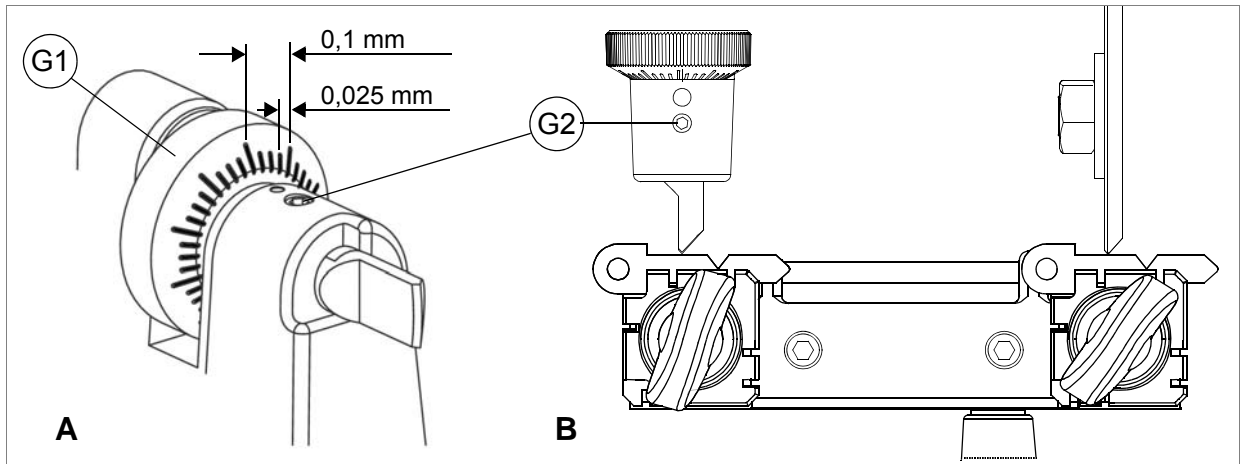
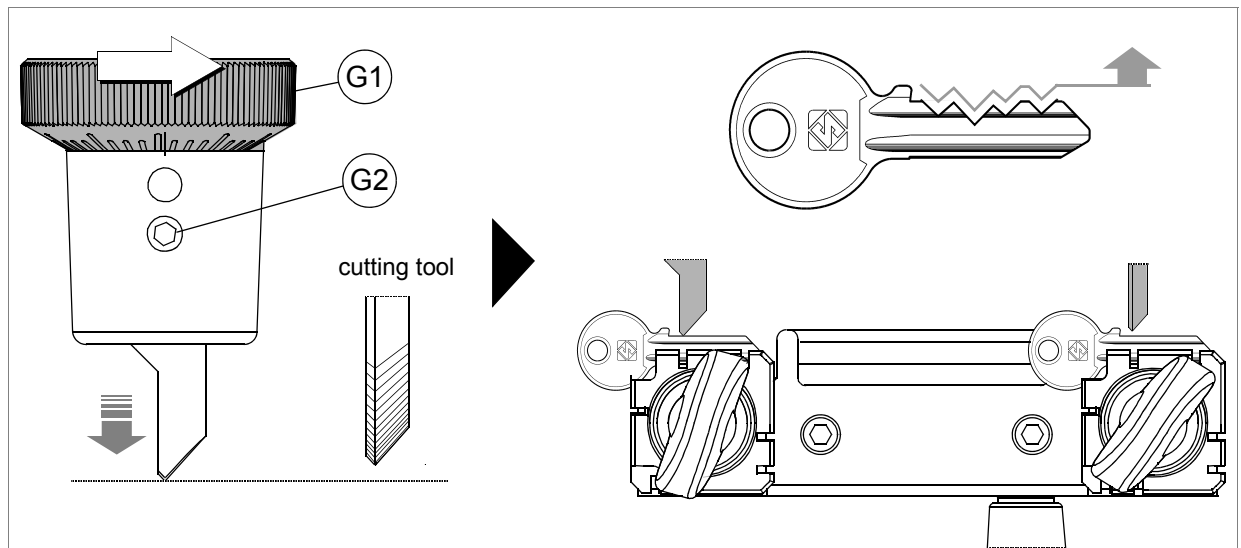

Fig. 17
Fig. 18
- 6) Raise the carriage and take up to the cutting tool (fig. 17).
- b) turn the ring nut (G1) clockwise to advance the tracer point (fig. 17 and fig. 18).
**ATTENTION:** each notch on the centesimal ring corresponds to 0,025 mm (fig. 17).